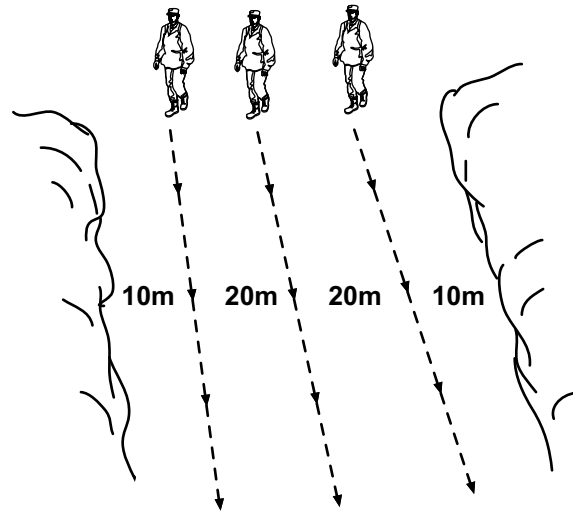

Figure 1-14. Conducting a Bracketing Search.
- Deploy searchers at a maximum of 20 meters apart in the last seen area and move down the slope (see Figure 1-14).